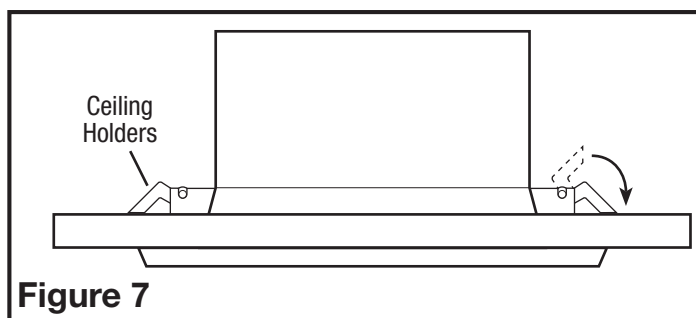

Figure 7
5. **6" Inline Kits:** Once the ducting has been connected to the room intake assembly, press the grill up into the previously cut hole until the spring loaded ceiling holders snap in place (**Figure 7**).